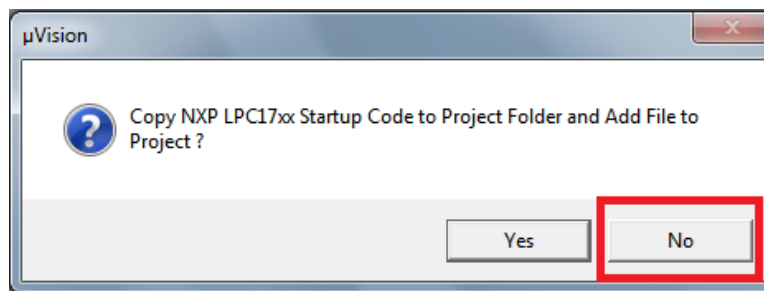

Figure 5.3: Keil IDE: Copy Startup Code
- Answer "No" when you are asked to copy the startup code (See Figure 5.3).